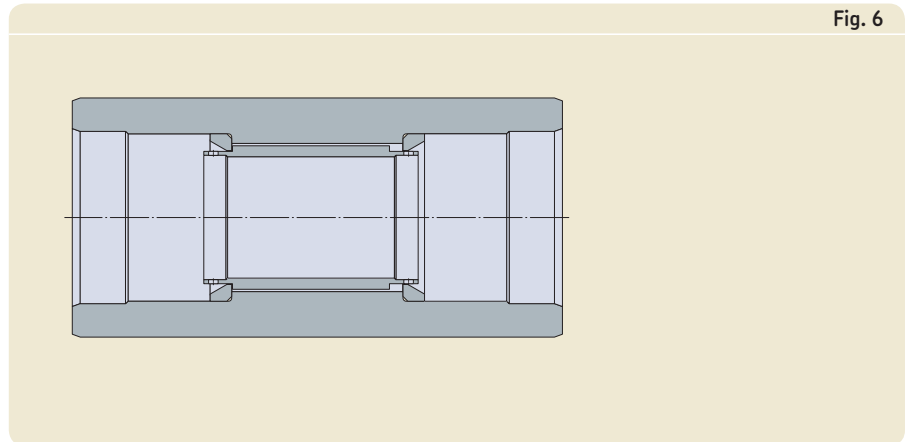

Fig. 6
- Insert the intermediate sleeve loosely into the roll mantle (→ fig. 6).
- Fit the dismounting rings in the bearing seat. The dismounting rings radially centre the intermediate sleeve (→ fig. 6).